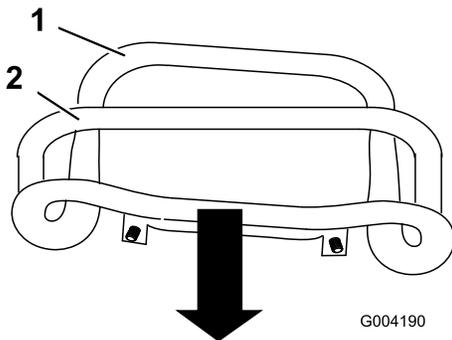

Figure 44
3. Pull straight back on the traction control so the front of the control contacts the reference bar (Figure 44).